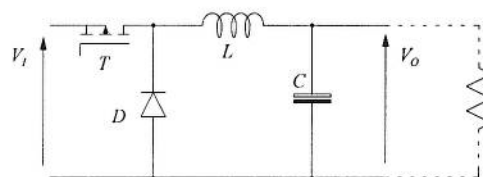

Figure 1.2 A Buck Switch-Mode Power Supply
- c) i) Figure 1.2 shows a buck switch-mode power supply. Mark on a copy of the diagram the current paths during the **on** and **off** states of the transistor and state whether the inductor current is increasing or decreasing in these states. [4]